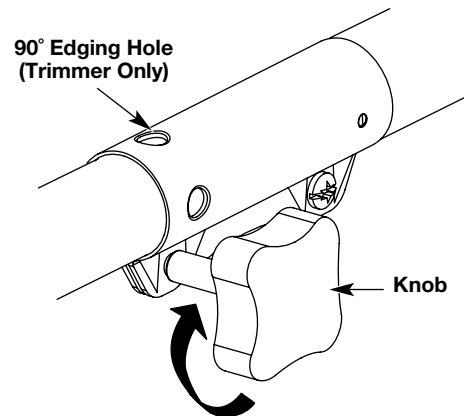

Fig. 25
3. Turn the knob clockwise to tighten (Fig. 25).
For edging (when using the line head cutting attachment with EZ-Link™ models), lock the release button of the cutting attachment into the 90° edging hole (Fig. 25).